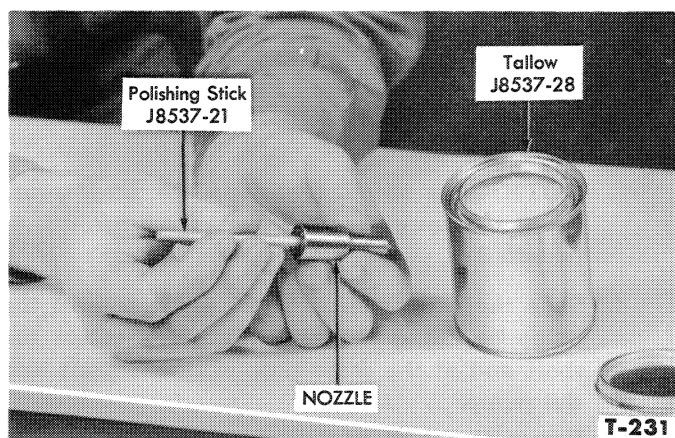

Figure 16—Polishing Nozzle Seats
7. After the nozzle is thoroughly back flushed to remove all loose carbon, the seat can be polished by placing a very small amount of tallow on the end of a Polishing Stick J8537-21 and rotating it in the nozzle, Figure 16.